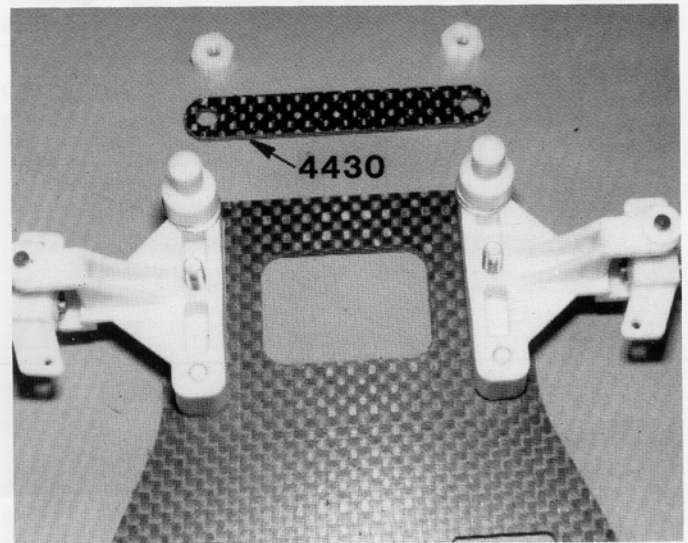

Fig. 9
□ **Fig. 9**—Now mount the #4430 suspension arm brace to both suspension arms using the nylon nuts. Do not overtighten the nylon nuts.